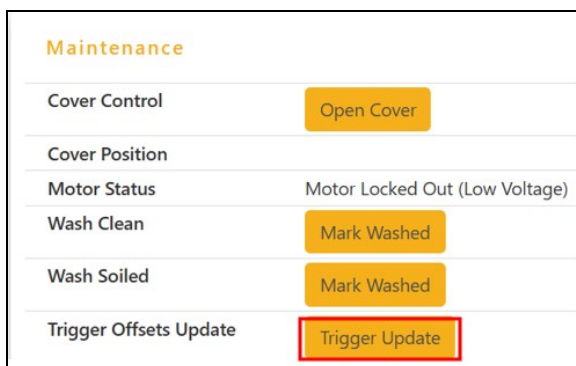

Figure 4-11. Maintenance section on Dashboard tab
- h. Click **Trigger Update** to calibrate the soiled cells against the clean reference cell (Figure 4-11 [p. 9]). This forces a soiling measurement irrespective of the sample period and current time. The measurement starts on top of the minute.